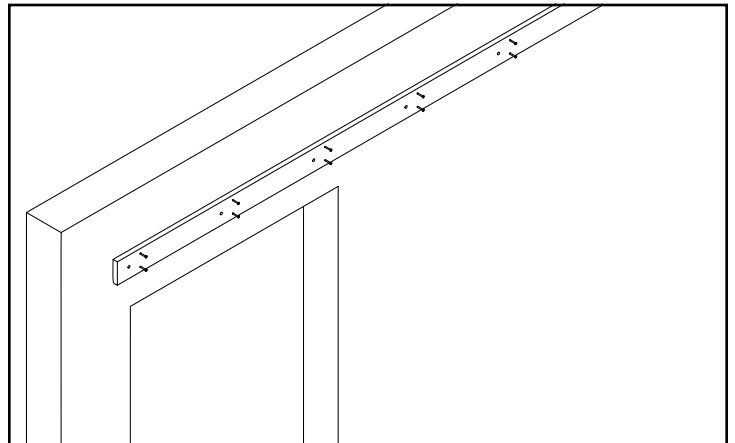

Figure 19. Installing Backer Board
1. Using a 1/8" drill bit, pre-drill for the studs, placing two holes vertically spaced along the area that will contact the stud as seen in Figure 19.
3. With the backer board held in position and level, secure it to at least 5 studs with the included (10) #9 X 2 1/2" wood screws.